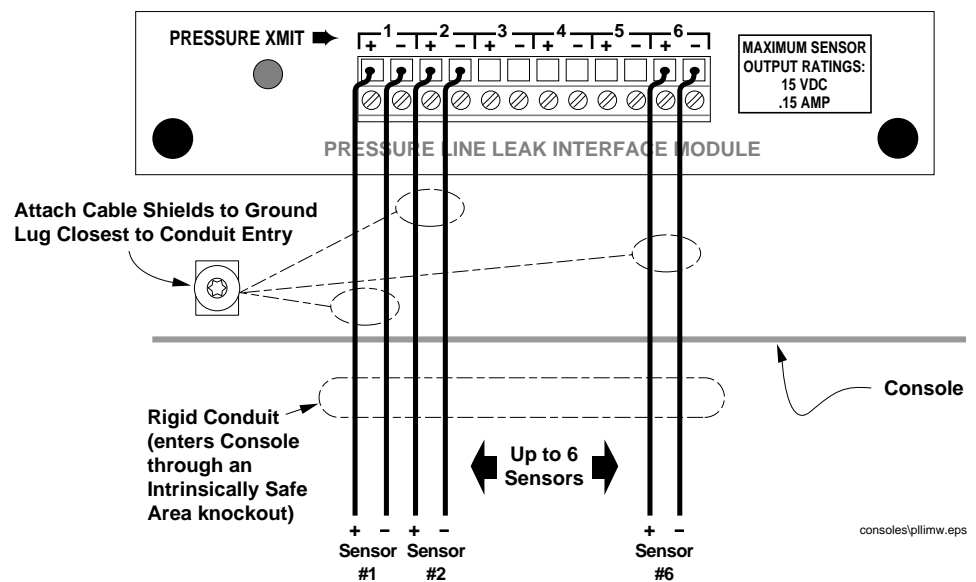

Figure 4. PLLD Interface Module Wiring Diagram
1. Connectors are supplied with each Pressurized Line Leak Interface Module. They provide screw terminations for up to six (6) Line Leak Sensors. Be sure to record on the circuit directory the type of module and the name or location of each device wired to the connector.
2. Connect the two (2) marked or color-coded wires from each Line Leak Sensor to the appropriate terminals on the PLLD Interface Module Connector (see Figure 4 on page 10).